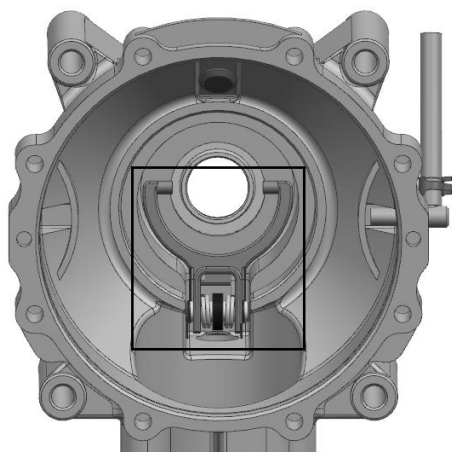

Fig 12
assembly from the gearcase cover. →Fig 12
5.Carefully install the shift yoke assembly into the gearcase cover.→Fig 12